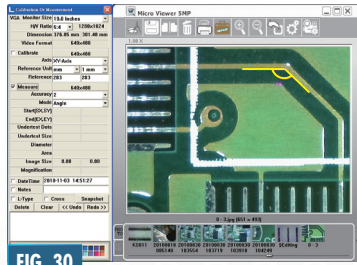

FIG. 30
8. Release the right button of the mouse, and the angle measurement will appear. (Fig. 30)